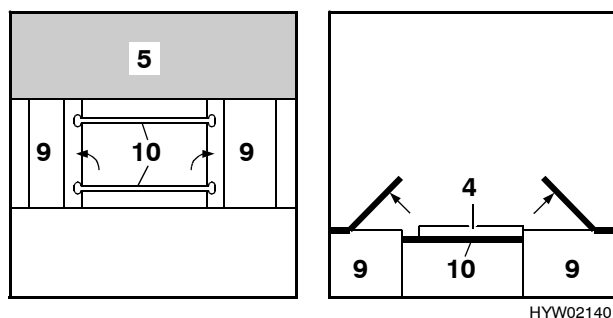

Fig. 86 During conversion
- Lift up the bedding box lids and insert the two bed rods (Fig. 86,10) in a transverse position in the pertinent grooves between both bedding boxes. Close the bedding box lids.
- Place the table-top (Fig. 86,4) on the two bed rods.